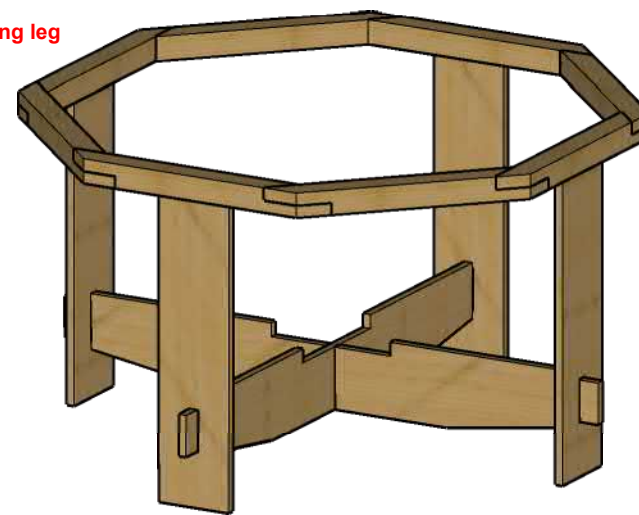
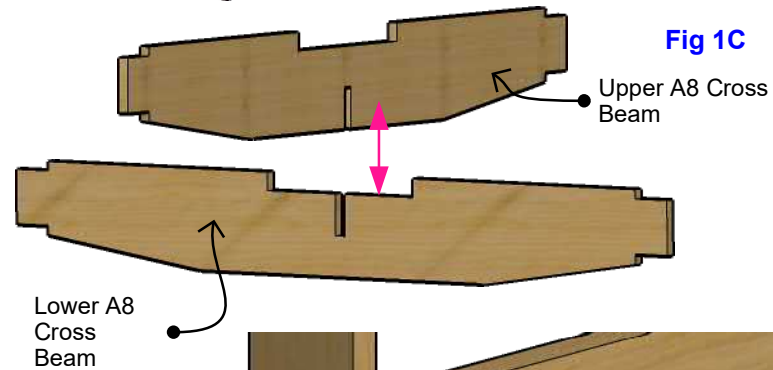

Fig 1B
Fig 1C
**Fig 1B & Fig 1C - Cross Beams:** Position **Lower A8 Cross Beam** between any two Legs and gently spread Legs and insert Lower Cross Beam. Repeat for **Upper A8 Cross Beam** and interlock centers as illustrated in Figures 2 and 2A. Cross Beams add strength AND provide a spot for **A6 Aluminum Catch Pan**.